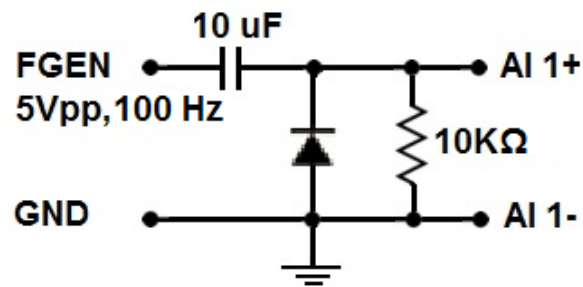
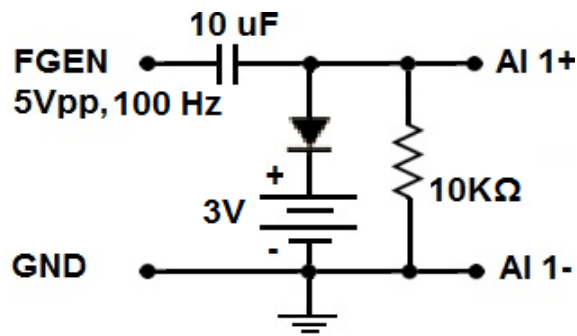

Figure 6.4: Clipping circuit.
Figure 6.6: Clamping circuit.
4. Repeat steps 1 to 3 for figures 6.4 and figure 6.6.